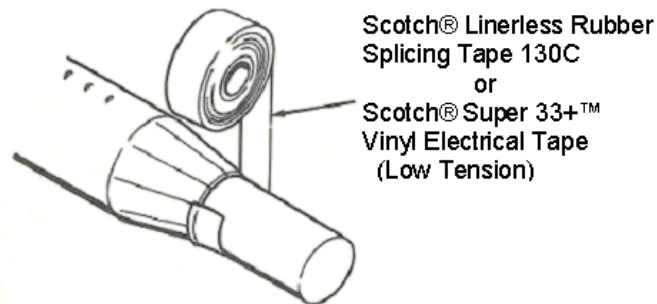

Figure 13
5. Bundle mold's notched ends evenly around cable, maintaining cable centering. Starting 1/2" (12,7 mm) on cable jacket, apply 1 half-lapped layer of Scotch® Super 33+™ Vinyl Electrical Tape or Scotch® Linerless Rubber Splicing Tape 130C over notches. (Figure 13)